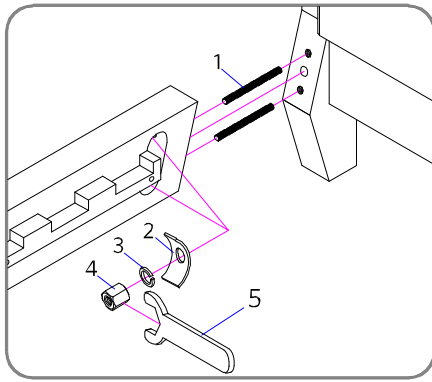

FIGURE 01
Place the headboard (A) upright in the position you wish the bed to be in when fully assembled. The headboard bed fast hardware should be facing inside, toward the mattress. Secure the threaded rod (1) to the fixed nut in the headboard (A) by simply turning it manually. Raise the side rail (B) up and place the rod (1) to align with the bore holes on the end of the side rails (B). Put the side rails (B) up against the headboard (A) so the threaded rods (1) go through the bore holes. Insert curved washer (2), lock washer (3) and place hex nuts (4) on threaded rod (1) then tighten the hex nuts (4) with wrench (5) provided, as illustrated in **FIGURE 01**.